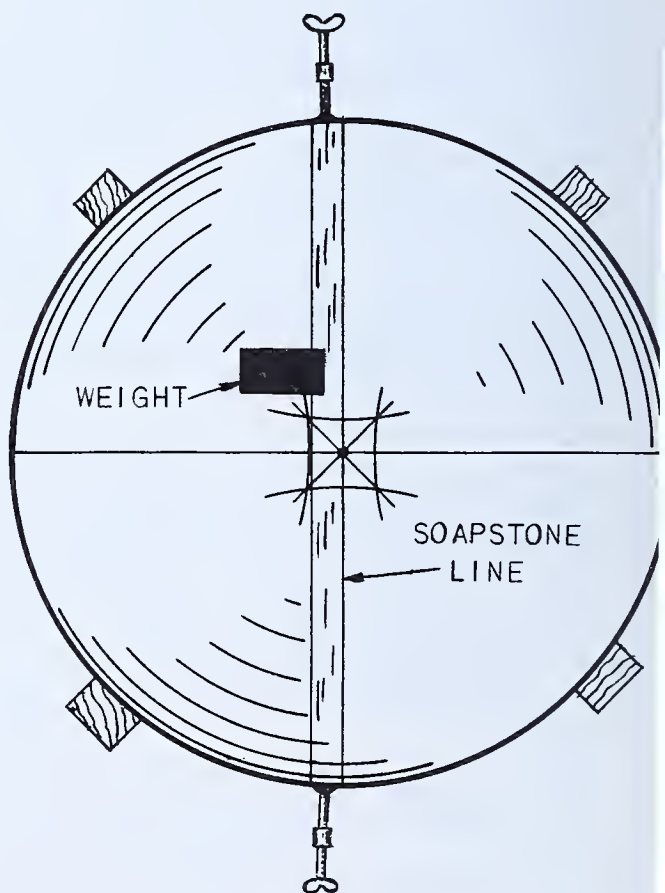

FIG. 275 — Steps 19 to 22
21. Mark with soapstone along the straight edge of the metal strip as shown in Fig. 275.